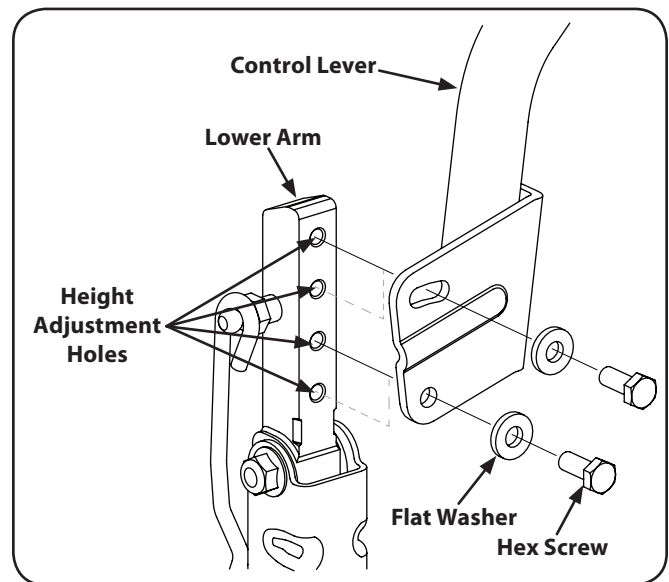

Figure 6-3
2. While supporting the control lever to keep it from falling, remove the hex screw and flat washer from the bottom of the control lever and lower arm. Refer to Figure 6-3.
1. If not already loose, loosen the hex screw and rotate the control lever either forward or rearward to the desired position. See Figure 6-3.